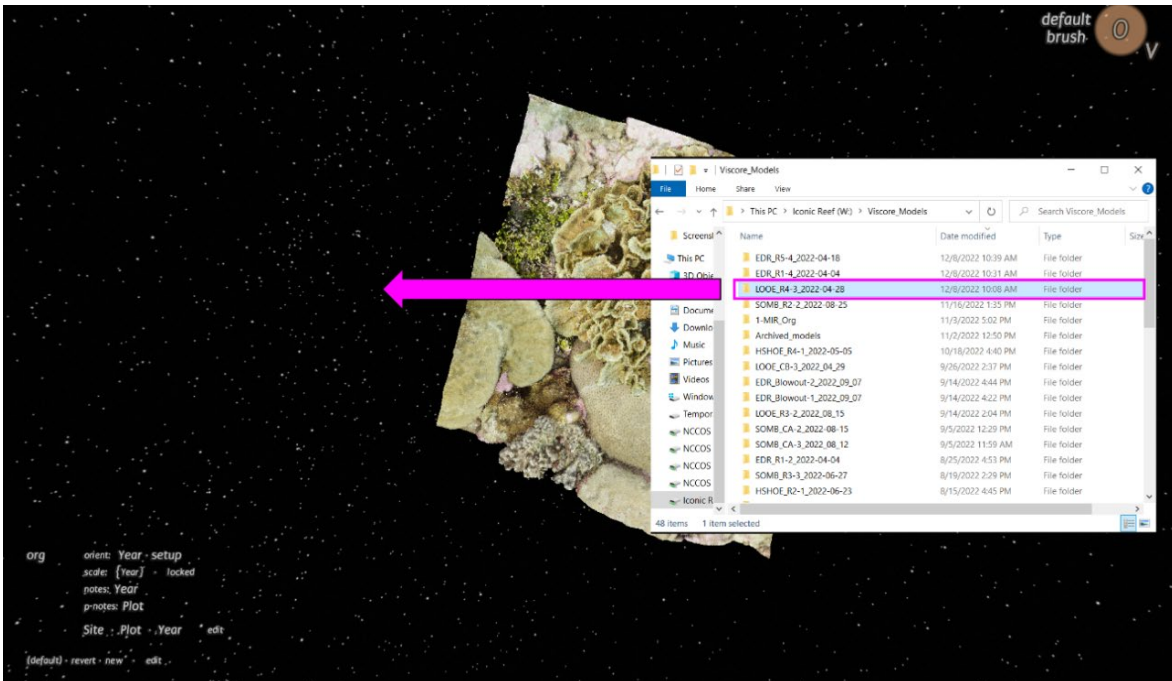

Figure 89. Drag and drop the model folder into the Viewer window.
- B. The column `layer` displays the name of the host layer `.vml` and cannot be changed. Under the columns `island`, `site`, and `time`, replace `undefined` or `NONE` with the names of the organizational structure to be used. For instance, for the M:IR project, the entries of `NONE` in the `island`, `site`, and `time` columns would be changed to `Site`, `Plot`, and `Year`, respectively (Figure 89).
2. Locate the folder for the model to be added to the Org project. Drag and drop the entire model folder into the Viscore Viewer (Figure 89). In the center of the Viscore Viewer, `.vml` loading will appear and quickly disappear.